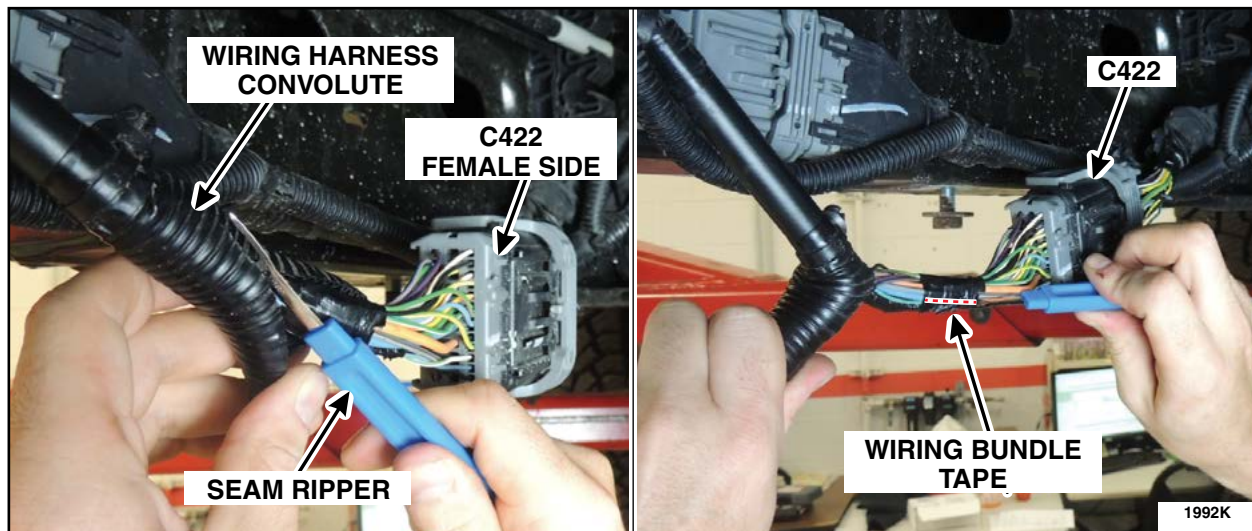

FIGURE 7
7. On both sides of connector C422, use a fabric seam ripper, or an equivalent tool, and cut back the wiring harness convolute. Then, remove the tape around the wiring bundle to gain better access to the center row of wires. See Figure 7.